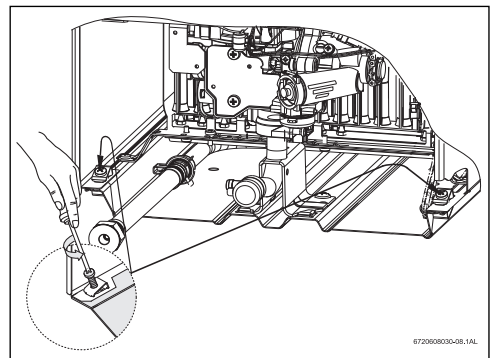

Fig. 6 Remove front cover
- ▶ Unscrew the cover fixing screws, see Fig. 6.